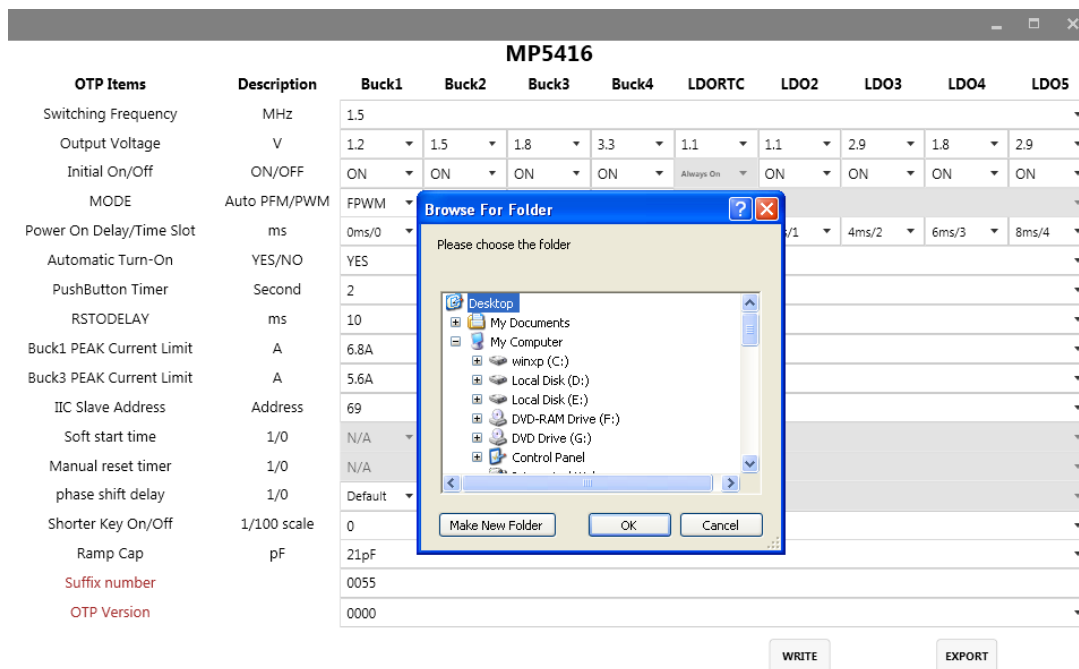

Figure 15: Various Locations Available to Export To
8. Export the configuration by clicking EXPORT. Find a location for the exported file and click “OK”. Your configurations will be saved in a text file (see Figure 15).